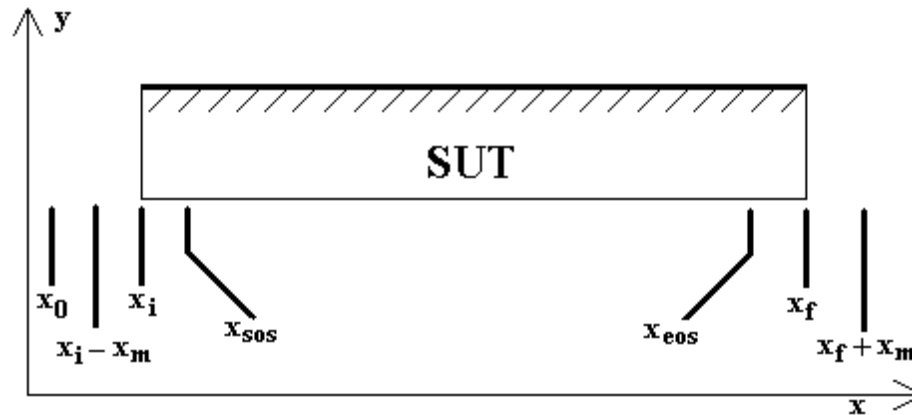

Figure 3.1 Positional relationship of scan parameters.
3.6 Click on "Move". After the carriage has moved to the negative position, click on "Initialize", so that  $x_0 = 0$ . Using the above example (paragraph 3.5),  $x_i$  will now be 50. Refer to Figure 3.1 for a picture of these values.
3.19 Enter the scan parameters into the edit boxes as needed. Again, refer to Figure 3.1 for the meaning of these parameters.